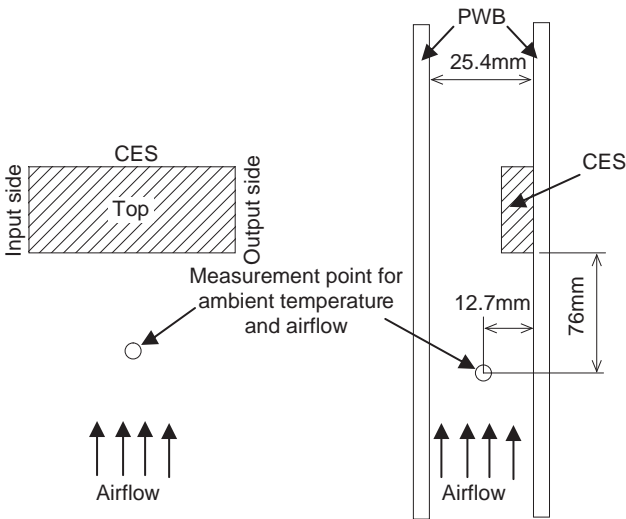

Fig.8.3 Measuring method
■Shown the thermal curve with measuring as shown in Fig.8.3. Verify final design by actual temperature measurement. Use the temperature measurement location as shown in Fig.8.2 at 120°C or less.